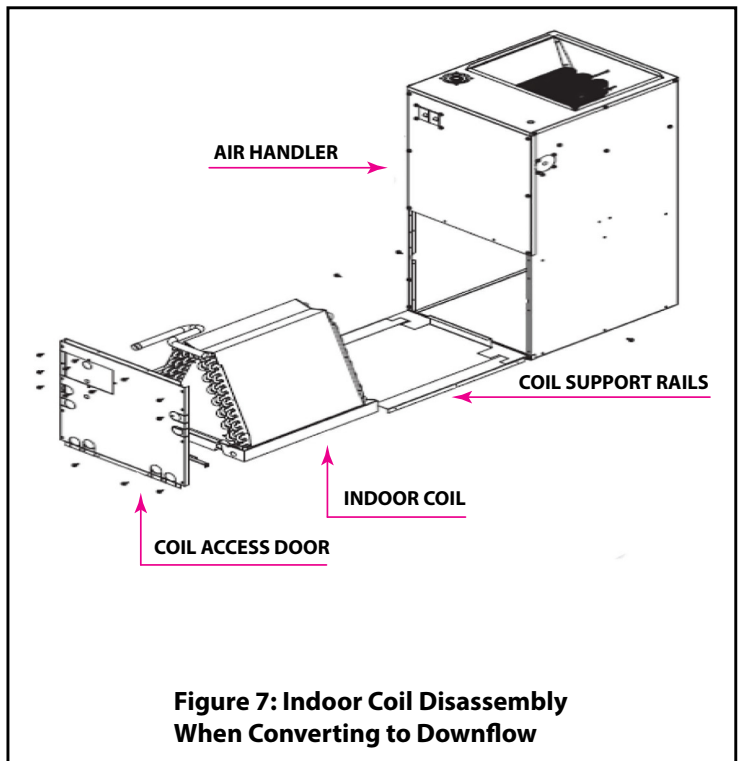

Figure 7: Indoor Coil Disassembly When Converting to Downflow
The MS Series air handlers may be converted to the downflow configuration using a required downflow conversion kit by following the instructions below (See Figures 7 and 8).
3. Remove indoor coil assembly with drain pan by sliding out the front of the air handler as shown in Figure 7.
4. Remove 6 screws (3 on each side of air handler), securing indoor coil support rails. Refer to Figure 7.